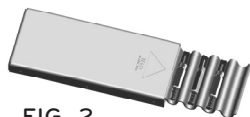

FIG. 2
4. To inspect or assay cartridges/seeds. Place FlatPack on flat/level surface. Remove metal end cap. Cut autoclave tape and slide stainless steel tray out of housing to expose loaded cartridges (Fig. 2). Shield design allows User to expose only one cartridge at a time (Fig. 3) or all cartridges at once (Fig.4). Inspect/assay per established hospital procedures.